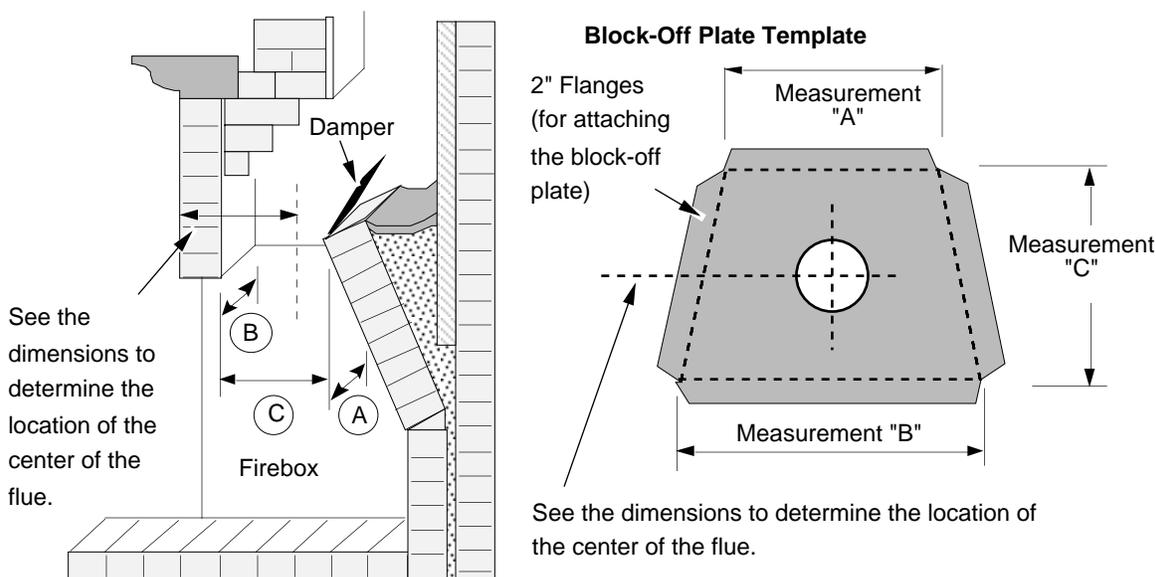

Figure 7
- 1 Determine a location for the block-off plate at the top of the firebox below the damper area (make it high enough to allow installation of the connection pipe). The location should be level and in an area where it can be mounted easily. Measure the width at the rear ("A") and front ("B") of the firebox at the height where the block-off plate will be installed (see Figure 7). Then measure the depth of the location where the block-off plate will be installed ("C").